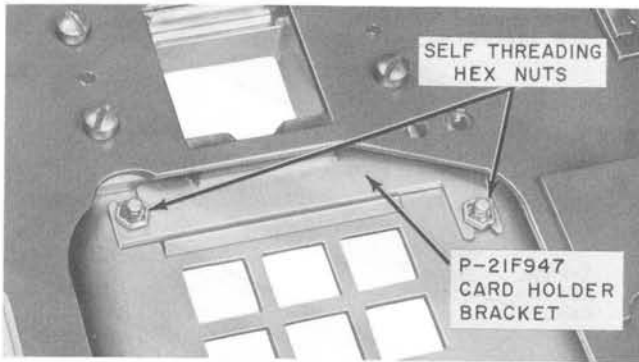

Fig. 11—Card Holder Bracket Installed (2A2)
- (d) Secure window and number card using the P-21F947 card holder bracket and two hex nuts (Fig. 11).